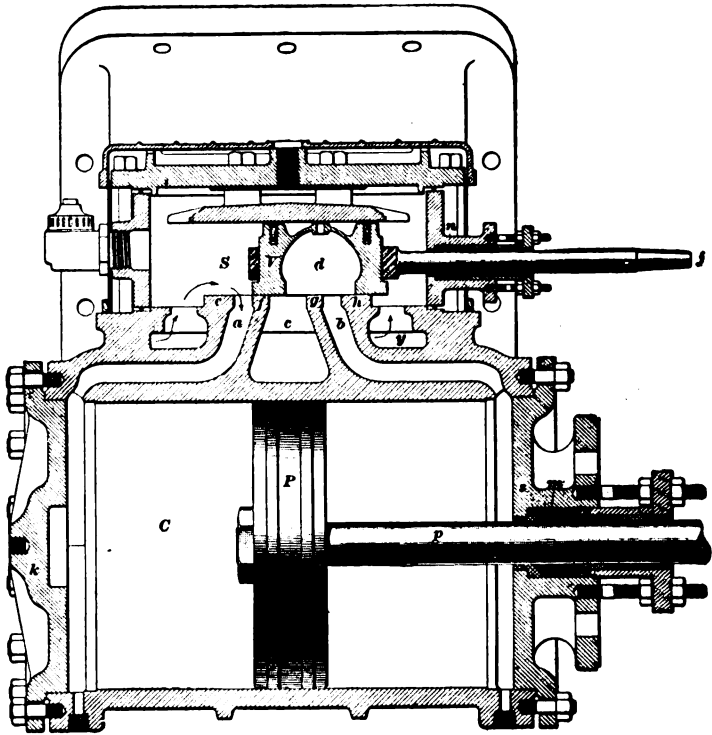

FIG. 12.
14. In Fig. 12 a sectional view of a locomotive cylinder and steam chest is given, in which *C* is the cylinder; *P*, the piston; *S*, the steam chest; and *V*, the slide valve. *k* and *s* are the front and back cylinder heads, respectively; ports *a* and *b* are called the steam ports; port *c* is the exhaust port, and *d* is the exhaust cavity in the slide valve; *p* is the piston rod, and *j* the valve stem, both of which work steam-tight through the packings *m* and *n*, respectively. The partitions *f* and *g* between the steam ports and the exhaust port are called *bridges*. The raised portion that is marked *efgh* is planed smooth and level, and forms the slide-valve seat. The steam ports *a* and *b* conduct steam both to and from the front and back ends